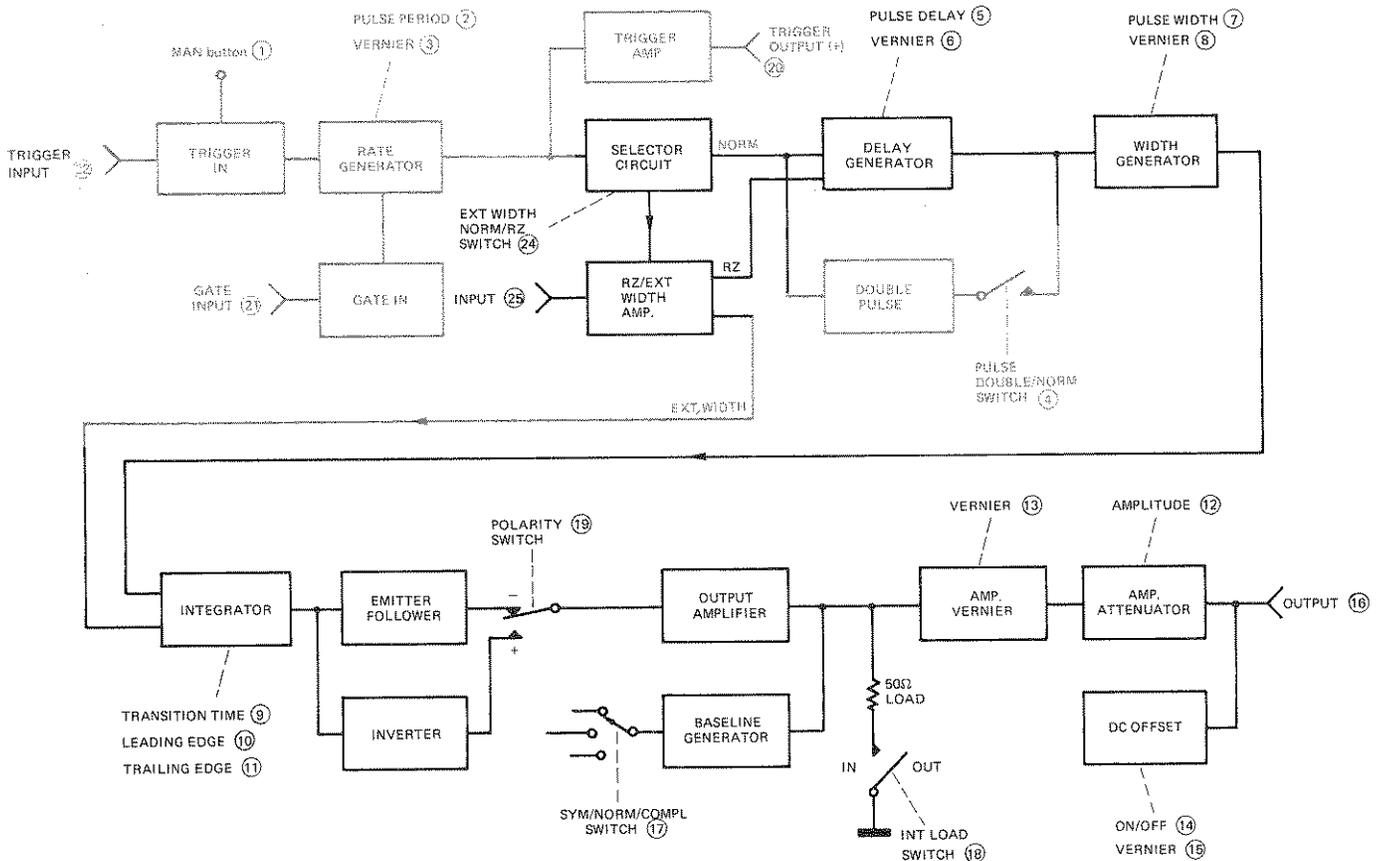

Figure 3-18. RZ mode — block diagram
3-40 In RZ mode external pulses, applied to the INPUT connector (25) on the 8012B rear panel, trigger the delay generator directly (see figure 3-18) and the shape of the output pulses is determined by the pulse forming circuits following the delay generator. The
3-41 The circuits and controls involved in RZ mode are shown in Figure 3-18.